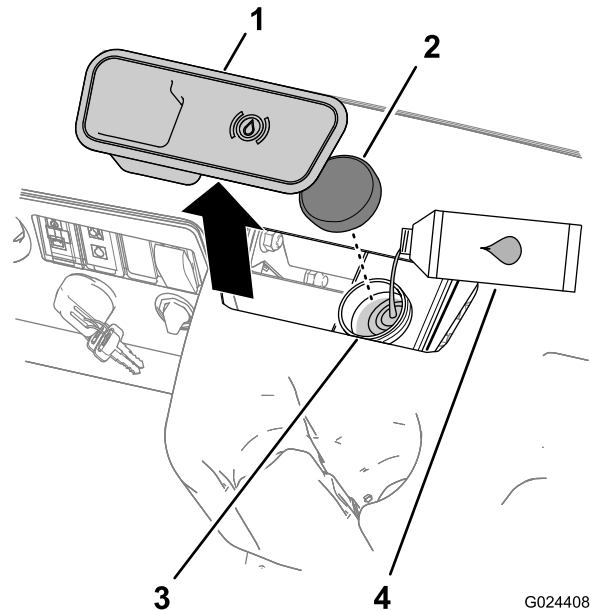

Figure 15
- Remove the rubber plug in the center and on top of the dash to gain access to the master brake cylinder and reservoir (Figure 15).
- A. Clean the area around the reservoir cap, and remove the cap (Figure 15).
- C. Install the reservoir cap (Figure 15).